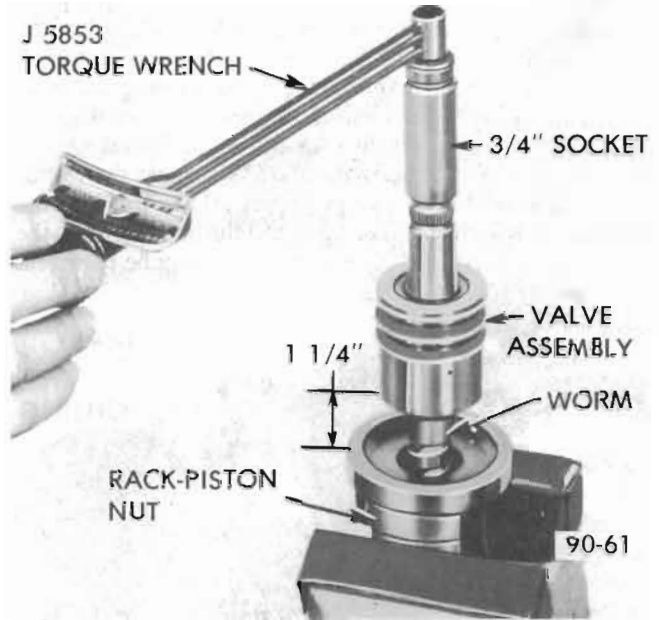

Figure 90-61 Checking Rack-Piston Nut Ball Preload
8. The worm groove is ground with a high point in the center. When the rack-piston nut passes over this high point, a preload of 1 to 5 pound inch should be obtained. To measure the preload of the assembly, lightly clamp rack-piston nut in a soft jaw vise with worm pointing up. Do not distort rack-piston nut by tightening too heavily. Place valve assembly on worm, engaging worm drive pin. Rotate the worm until it extends 1-1/4 inches from the edge of rack-piston nut to the thrust bearing face of worm; this is the center position. Attach torque wrench J-5853 with 3/4 inch, 12 point socket to the stub shaft. See Figure 90-61. Rotate the wrench through a total arc of approximately 60 degrees (1/6 turn) in both directions several times and take a reading. The highest reading obtained with the worm rotating should be from 1 to 5 pound inch.